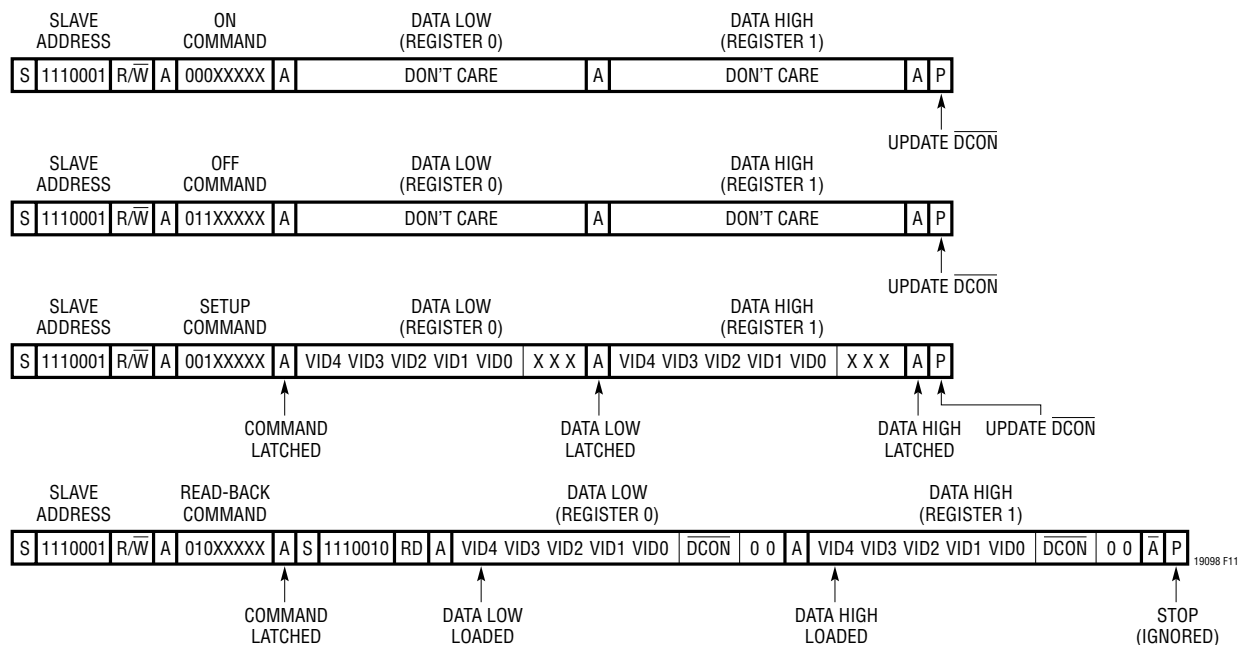

Figure 11. Write Word and Read Word Protocols
The Write Word and Read Word protocols (Figure 11) share three common features. First, the 7-bit slave address for both protocols is internally hardwired to  $1110\ 001\text{B} = \text{E2H}$ . A single R/W bit follows the slave address. This bit is low for data transfer from the microprocessor to the LTC1909-8 and high for transfers in the opposite direction.
Each Write Word protocol (Figure 11) begins with a start bit (S) and ends with a stop bit (P). As shown in the Timing Diagram the start and stop bits are defined as high-to-low and low-to-high SDA transitions respectively, while SCL is high. In between the start and stop bits, the microprocessor transmits four bytes to the LTC1909-8. These are the address byte, an 8-bit command code and two data bytes. The LTC1909-8 samples each bit at the rising edges of the SCL clock.